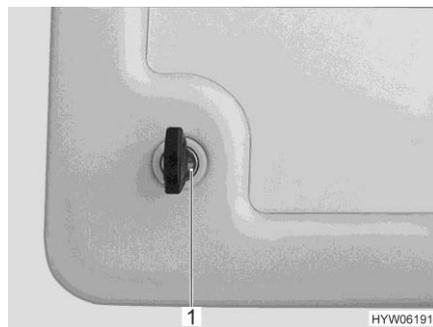
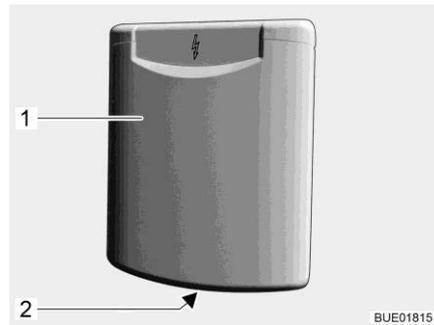

Fig. 78 Service flap push-button lock
Fig. 79 Service flap push-button lock (alternative)
- Insert the key into locking cylinder of the lockable push-button lock (Fig. 78,1 or Fig. 79,1) and turn a quarter turn. The push-button lock is unlatched.
- Press the two push buttons (Fig. 79,2) of the push-button locks simultaneously with the thumb and open the service flap.
- Insert the key into locking cylinder of the lockable push-button lock (Fig. 78,1 or Fig. 79,1) and turn a quarter turn. The push-button lock is locked.